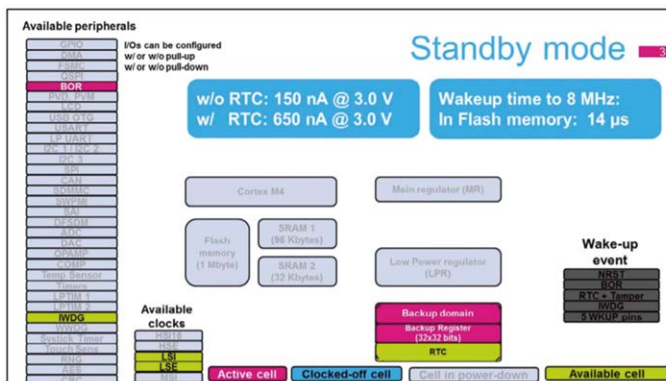

Figure 15.8: Standby mode.
**Standby mode:** this is low- power mode (Figure 15.8). The 32 Kbytes of SRAM2 can be retained. Voltage regulators are in power down mode, SRAM and peripherals registers are lost. 128-byte backup registers are retained. The CPU exits from the Standby condition by WKUP pin rising edge, RTC alarm, external reset, or IWDG reset.